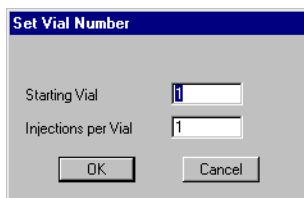

Figure 4-34 Set Vial Number Dialog Box
7. Select **Set Vial** from the Control Panel Sample menu. The Set Vial Number dialog box is displayed (Figure 4-34).